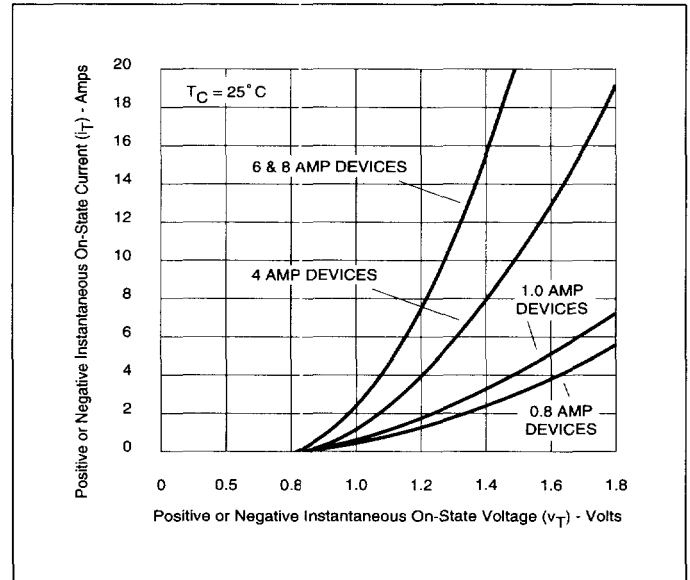

Figure 1.4 On-State Current vs On-State Voltage (Typical)
- (1) For either polarity of MT2 with reference to MT1 terminal.
- (2) For either polarity of gate voltage  $V_{GT}$  with reference to MT1 terminal.
- (3) See definition of quadrants and gate characteristics.
- (4) See Figure 1.4 for  $I_T$  vs  $V_T$ .